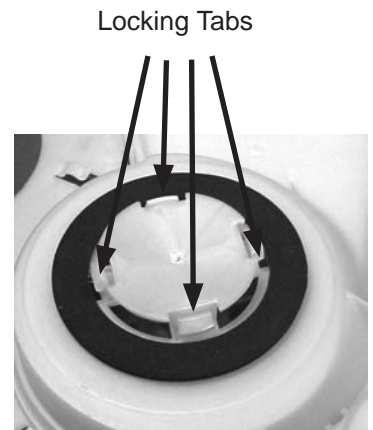

FIGURE 54
3. From inside of the tub, depress retaining clips. (See Figure 54) Blower assembly is removed from top outside of tub.